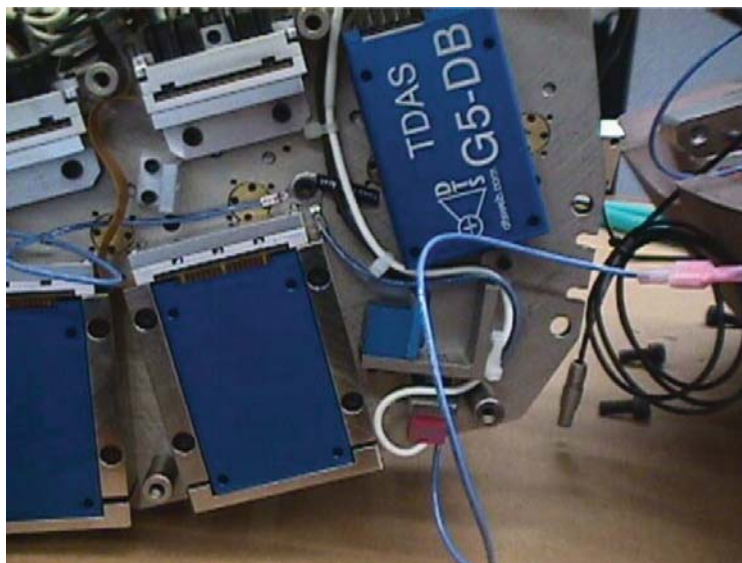

Figure I.4 — Cable 2 spine box routing
- 4) Route cable 2 through the spine box as shown in Figure I.4.